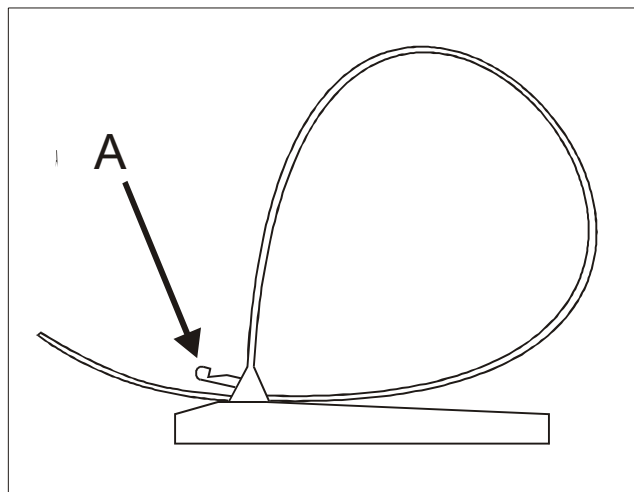

Figure 7-4 Cable clip release
- c) Release the cable clips below the deck assembly by depressing the locking tab (Figure 7-4, A). Pull the ACP cable out of the cable channel.
- d) Unplug the appropriate actuator cable. Release the cable ties below the deck (Figure 7-4), identify the faulty cable and release it from the cable ties. Remove the actuator cable from the bed.